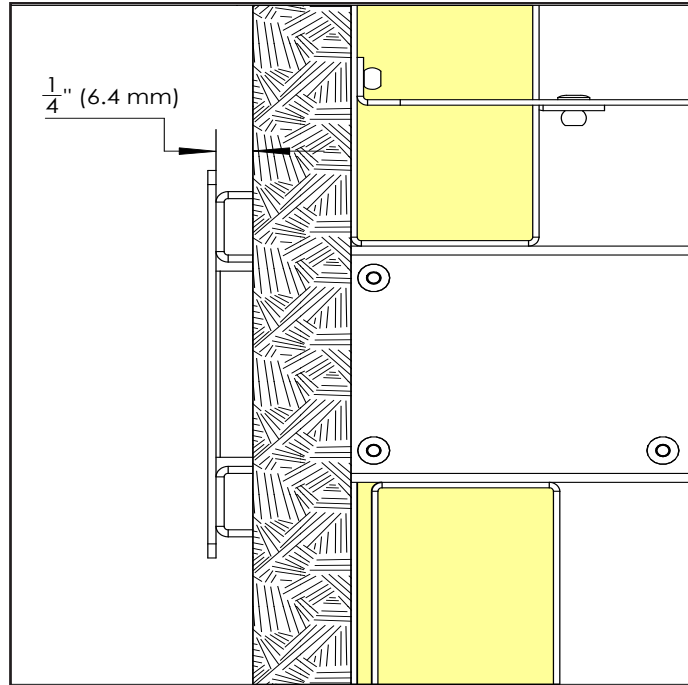

Figure 21. Outlet Trim Bezel - Standoff
Step 9: Finally, install the Outlet Trim Bezel by sliding it into the outlet until the backside contacts the finished wall surface. Next, re-install the two (2) screws removed in Step 2 to secure the Outlet Trim Bezel in place. When installed correctly there is a 1/4" (6.4 mm) standoff between the back side of the Bezel and finished wall (Figure 21).